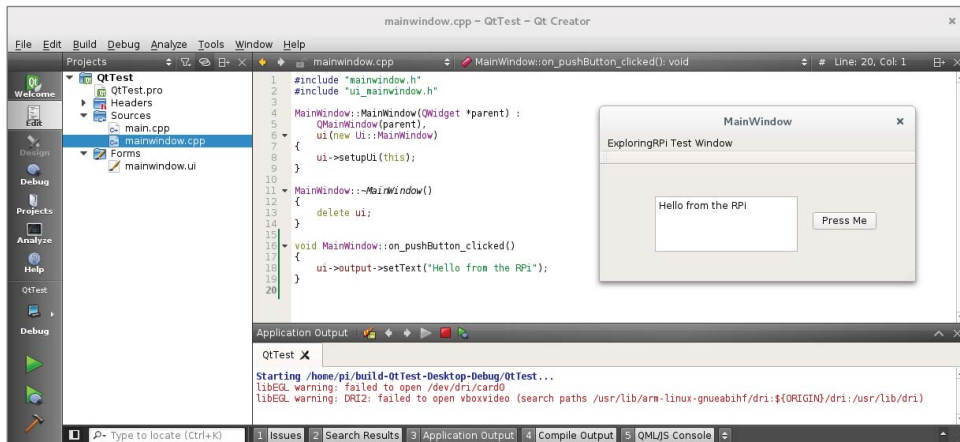

Figure 14-9: Qt Creator IDE test application
- Right-click on the button and use the Change text option to retitle the button to “Press Me.” Right-click the button again and choose Go to Slot and then pick a signal (for example `clicked()`). This creates a new function in the `mainwindow.cpp` file called `on_pushButton_clicked()`. See Figure 14-9.
The application can be executed by clicking the play button on the bottom-left side of Figure 14-9.⁵ The application window appears as in Figure 14-9. When the Press Me button is clicked, the text “Hello from the RPi” appears in the output `QTextEdit` component.